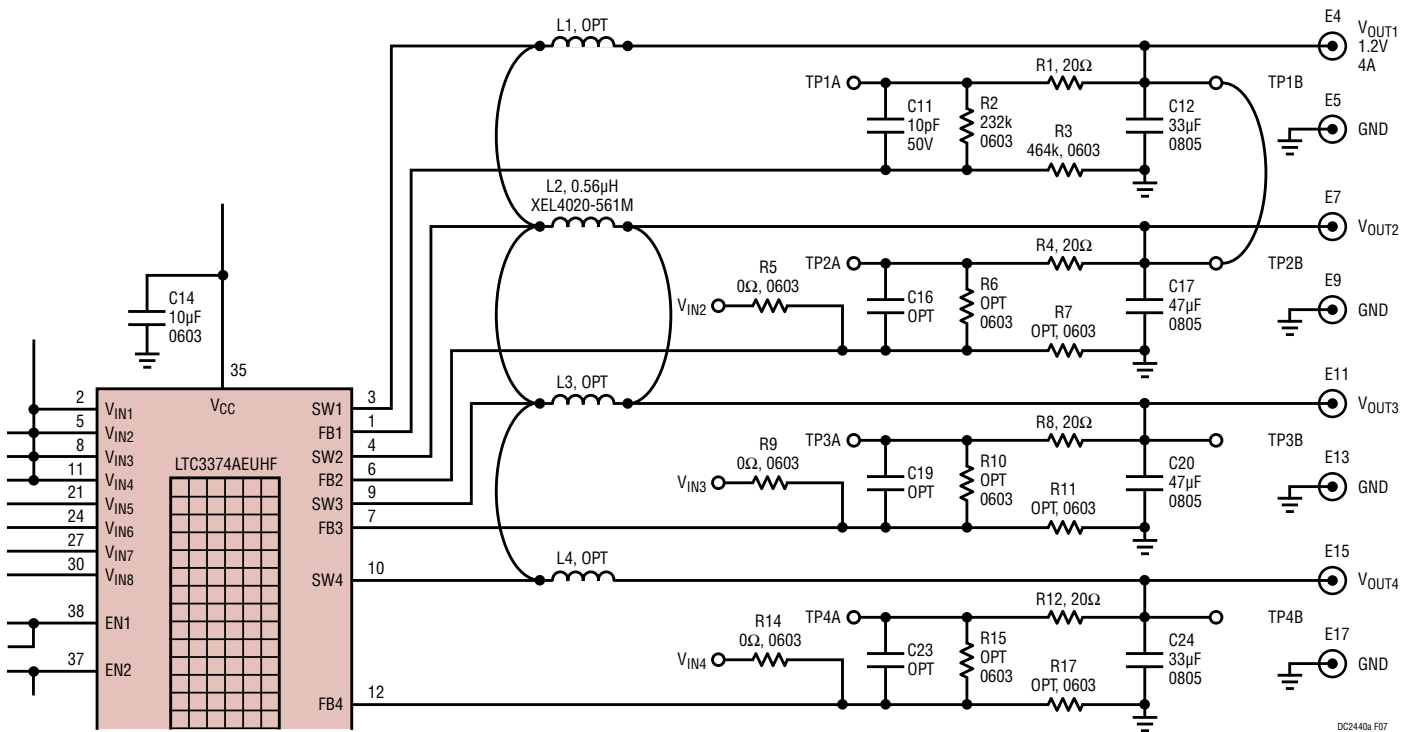
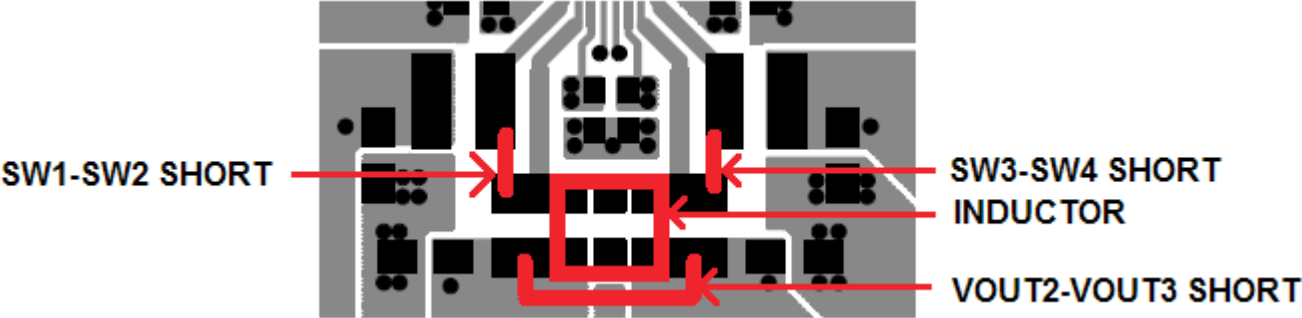

Figure 7. Combined 4A Output Regulators 1, 2, 3 and 4
Figure 8. Combined 4A Regulator Inductor Placement and Connections
To combine regulators 1, 2, 3, and 4 for a 4A output perform the following steps and refer to Figure 7 and Figure 8:
2. Add an appropriate size inductor that can handle the 4A output at current limit. The inductor should be placed across the L2, L3, pads and the copper between the pads as shown in Figure 8. The inductance should be reduced by about 1/4 for a 4A output. A 0.55 $\mu$ H inductor is recommended for a switching frequency of 2MHz. Refer to table 4 for recommended inductors.
3. Short SW1 and SW2 together at the L1 and L2 SW pads. Then short SW3 and SW4 together at the L3 and L4 SW pads as shown in Figure 8.